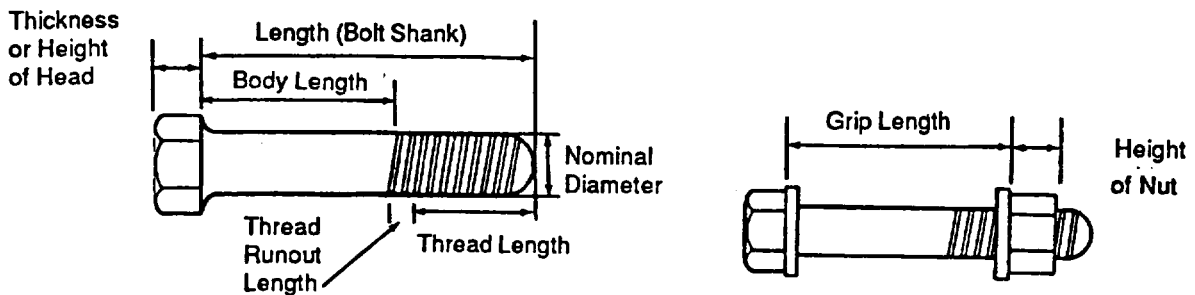

Figure 1. Thread Description
5. Inspection and Use. Cotter pins, lockwashers, lockwire, locking bolts, locking nuts and similar locking devices shall be discarded when removed. Self-locking fasteners that loosen up must be replaced, not tightened. Standard (non-locking) bolts shall be inspected before reuse. Bolts with deformed or damaged threads shall be discarded. Any corroded (rusted) fasteners should be wiped clean. If the surface of the fastener is pitted or rust is not removed by simple wiping, discard the fastener. New bolts and nuts shall be examined before use. Bolt shanks (see Figure 1) shall display no apparent taper. The correct size and grade bolt must be used in each application.
a. Matching Nuts. Matching nuts require a minimum height (see Figure 1) equal to the basic diameter of the bolt. The same is true of tapped holes. In tapped softer materials, the depth of the tapped hole should be 1-1/2 times the basic diameter of the bolt.
b. Thread Protrusion. In all installations, bolts, studs and screws must extend through the nut at least a length equivalent to two complete threads (see Figure1). This applies to both self-locking and plain nuts.